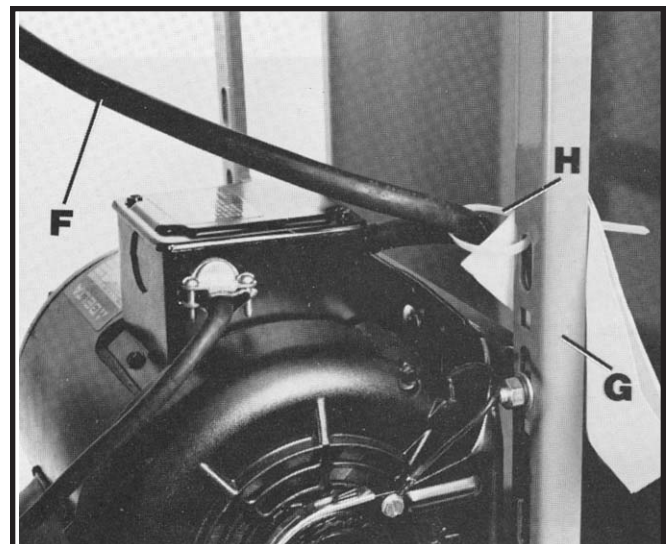
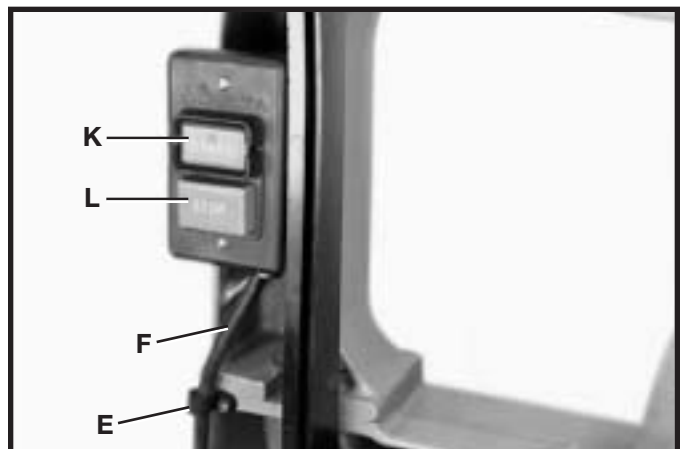

Fig. 7
Fig. 12
2. **CAUTION: THE ON/OFF SWITCH-TO-MOTOR CORD (F) FIG. 7, IS TIED TO VERTICAL MOUNTING POST (G) OPPOSITE THE MOTOR PULLEY. THIS CABLE TIE (H) PREVENTS THE SWITCH-TO-MOTOR CORD (F), FROM CONTACTING THE BELT OR MOTOR PULLEY DURING OPERATION. IMPORTANT: DO NOT REMOVE THIS CABLE TIE UNLESS YOU ARE USING THE ACCESSORY #28-984 HEIGHT ATTACHMENT WITH THE BAND SAW.**
7. Insert switch cord (F) Fig. 12, into clamp (E) which was removed in **STEP 6**, and fasten switch cord (F) to band saw as shown. **IMPORTANT: CHECK AND MAKE CERTAIN THE ON/OFF SWITCH-TO-MOTOR CORD (F) FIG. 7, IS NOT CONTACTING MOTOR PULLEY OR BELT. ADJUST CORD (F) FIG. 7, IF NECESSARY, THEN TIGHTEN CABLE TIE (H).**
To start the saw, press the "START" button (K) Fig. 12. To stop the saw, press the "STOP" button (L) Fig. 12.